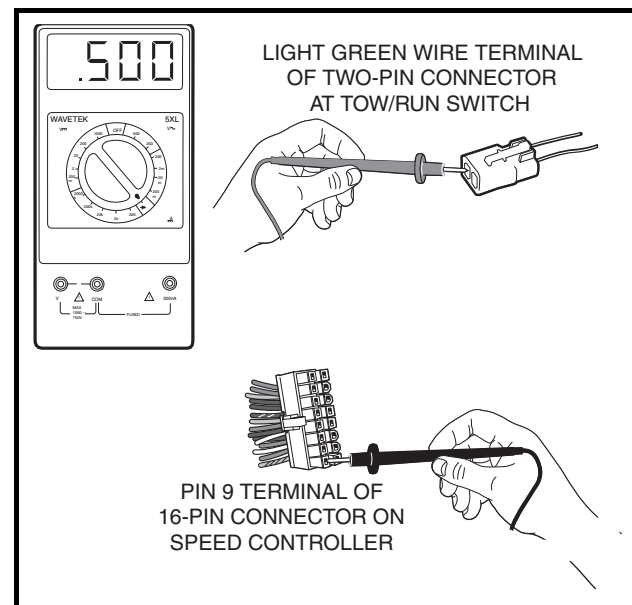

Figure 11-20 Diode Test – Probes Reversed
5. Reverse the multimeter probes and note the reading. With the black (–) probe of the multimeter on the pin 9 terminal of the multi-pin connector and the red (+) probe of the multimeter on the light green wire at the Tow/Run switch, the meter should read approximately 500 mV; however, a range of 400-600 mV is acceptable (**Figure 11-20, Page 11-32**).